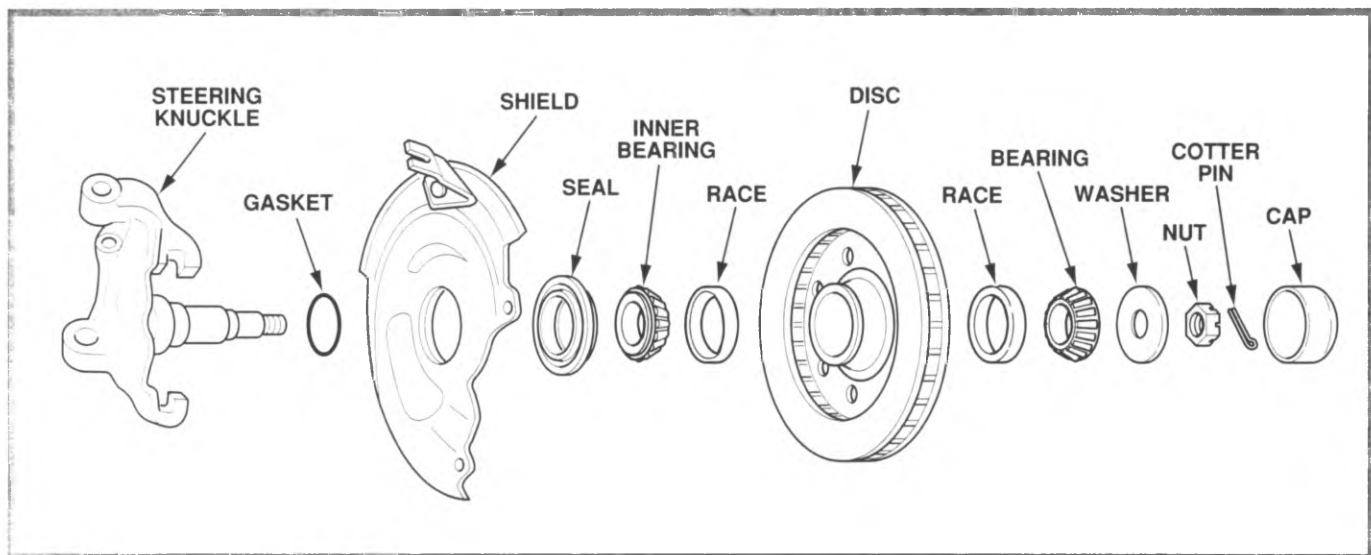

Figure 6-21. Wheel Bearing Assembly
Wheel and tire removed (figure 6-21)
5. Inspect the bearing and races for damage or wear. Replace if the bearing and/or race is damaged (refer to figure 6-21). Bearings and races must be replaced as a set.